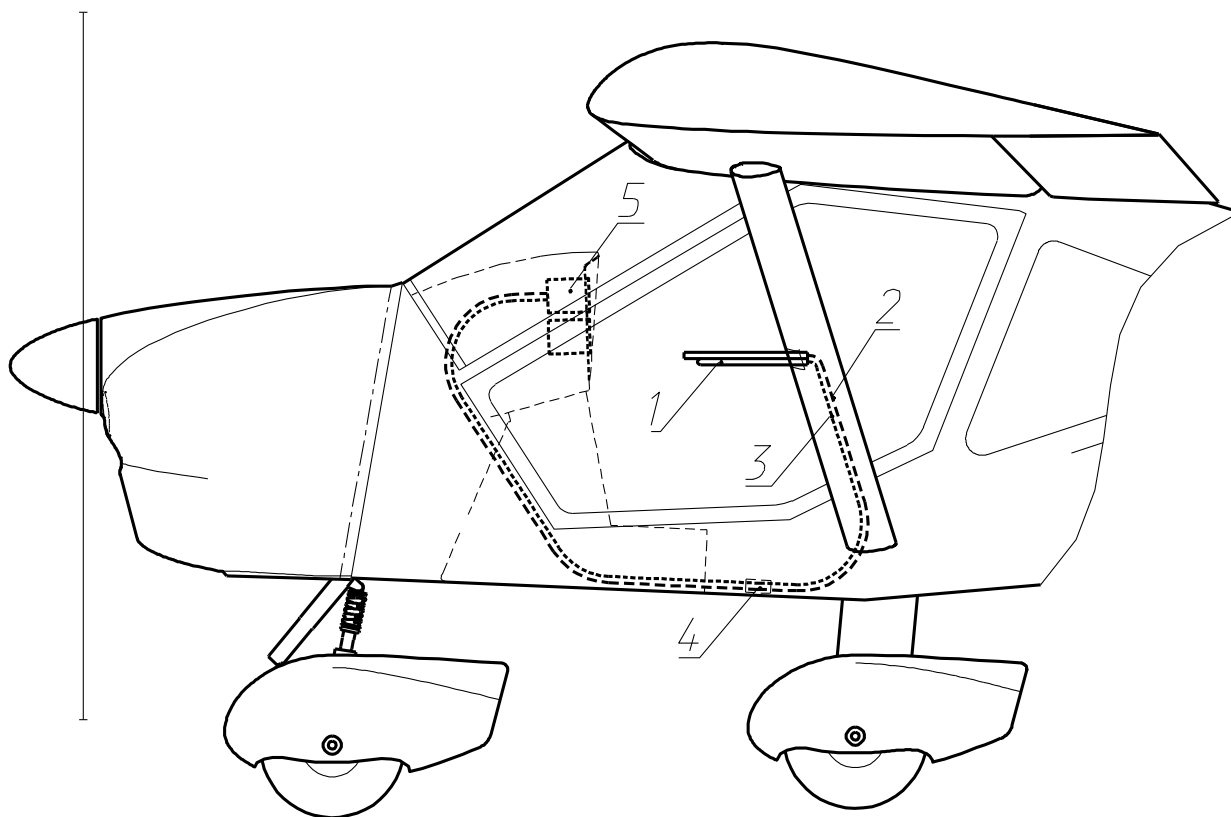

Fig. 14. Full and static pressure system
The full and static pressure probe (1) (see **Fig. 14**) is located on the left wing strut. It supplies the air pressure to the altimeter and the airspeed, vertical speed (if installed), angle of attack (if installed) indicators (6).
4. Disconnect the full and static pressure lines at their joints (4, see **Fig.14** at page **41**).